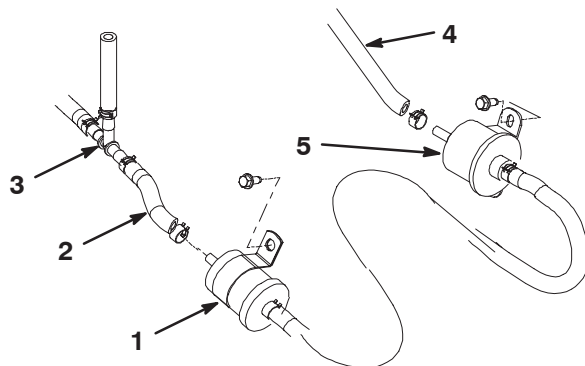

Figure 4
- Loosen the hose clamp securing the short fuel hose to the rear of the in-line fuel filter (Fig. 4). Remove the hose from the filter. Plug the hose end to prevent any fuel loss.
- Remove the fasteners securing the in-line fuel filter clamp to the machine (Fig. 4).
- Remove the fasteners securing the fuel pump to the machine (Fig. 4).
- Loosen the hose clamp securing the short fuel hose to the fuel tank tee fitting (Fig. 4). Remove the hose from tee fitting and quickly insert the hose end from the fuel pump onto the tee fitting.